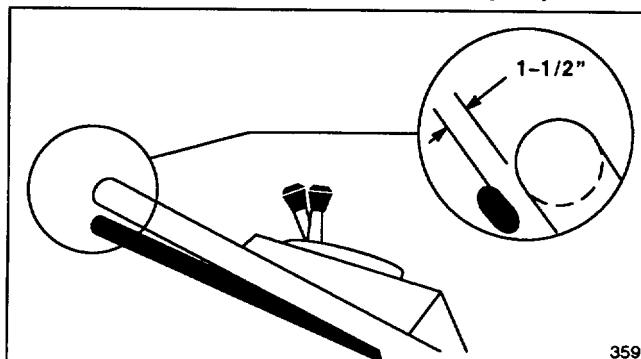

Figure 18
3. CHECK ADJUSTMENT—Adjustment is correct when control bar is about 1-1/2 inches from handle (Fig. 18).